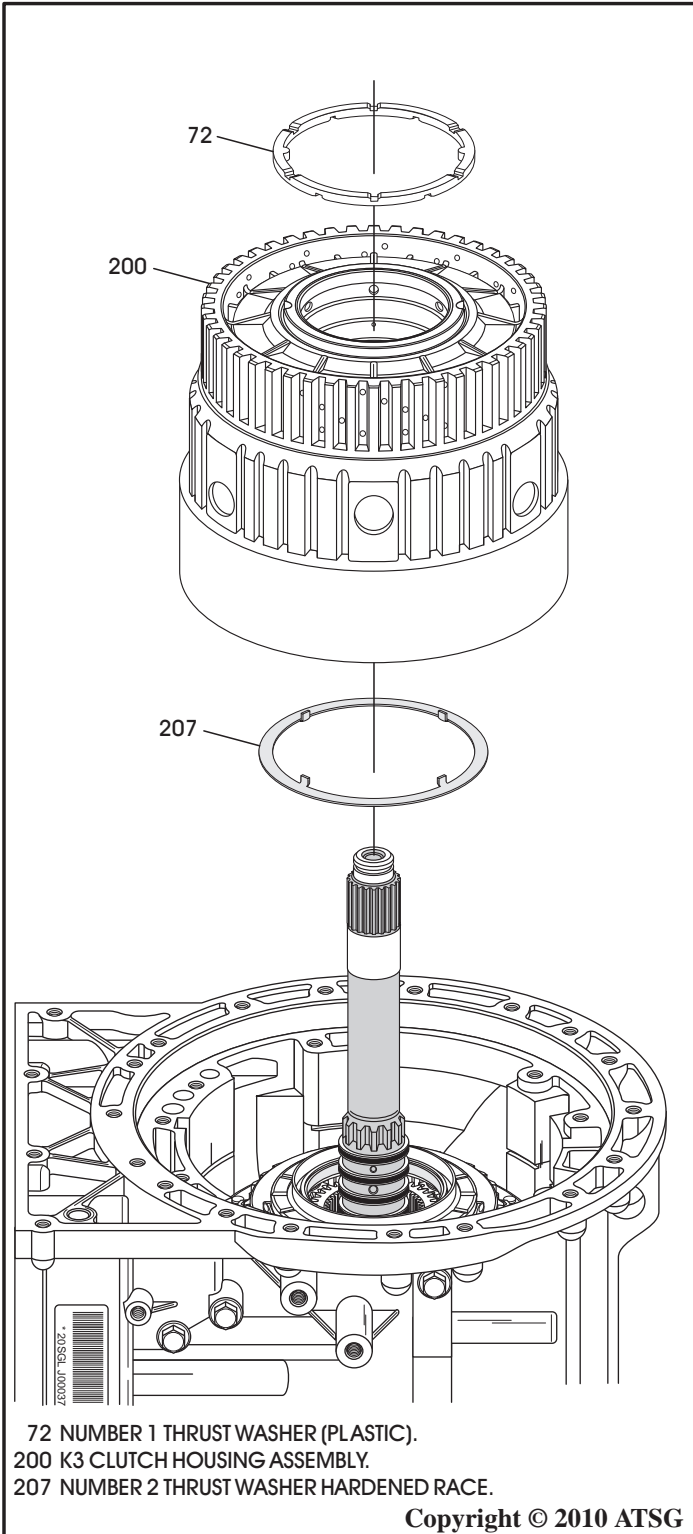

Figure 57
40. Now, you can remove the K3 clutch housing, as shown in Figure 57.
Note: Do not lose the number 2 thrust washer hardened race (See Figure 57), may be stuck to K3 balance piston.